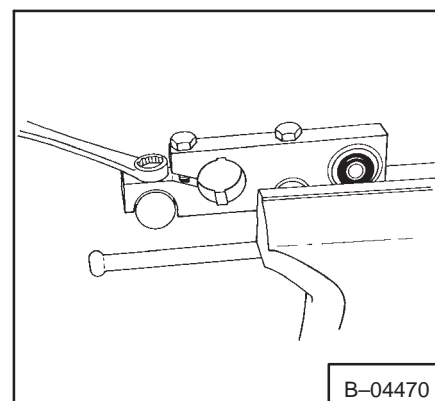

Fig. 3-24 Pintle Lever Cam
1. Remove the lobes from the pintle lever (Fig. 3-24).